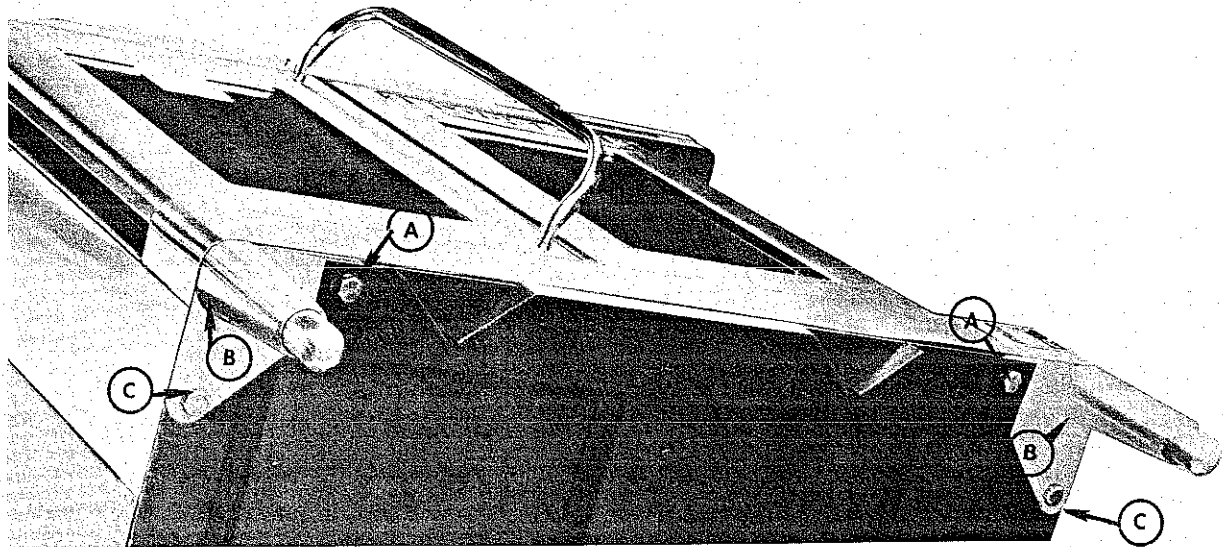
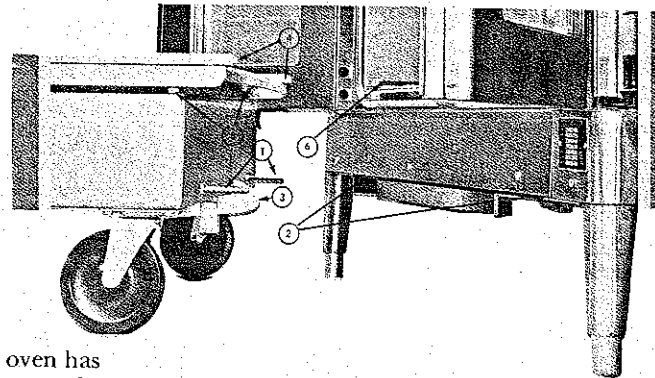
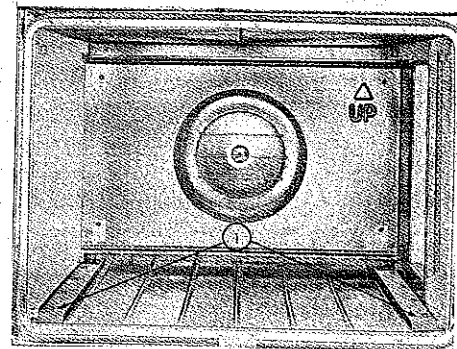

FIG. 11
FIG. 12
FIG. 13
1. The four legs are held in place by three (3) 1/2" bolts in each leg. Two of the 1/2" bolts go through the leg attaching plate and are threaded into the oven frame. The third 1/2" bolt (B) goes through the corner of the oven frame, and is threaded into the leg attaching plate. Lift rear of oven and attach two legs using six (6) 1/2" bolts. Tighten all six (6) bolts.
NOTE: Before installing the two "A" bolts (see FIG. 11 above) the docking assembly must be put in place as shown in FIG. 9. The docking assembly has an offset to allow it to fit over the two front leg attaching plates. There are two (2) offset clips that lock over the bottom frame of oven to keep center portion against frame. The two "A" bolts will be used to secure both the docking assembly and legs. Tighten bolts "B" and "C", DO NOT TIGHTEN "A" BOLTS. (Docking Assembly will require a final adjustment later.)
2. After leveling, note that distance from bottom side of oven to floor underneath should be as close to 7" as possible to facilitate docking alignment of transport cart. (See figure 12.)
2. Move and latch transport cart into place at front of oven. The two alignment pins on front of cart (FIG. 12, NO. 1) should line up with channeled openings in docking assembly (FIG. 12, NO. 2). The locking bar (FIG. 12, NO. 3) will also lock to docking assembly. If there is difficulty with the locking bar engaging the docking assembly, adjust the assembly forward or backwards to allow latching.
3. Align inner vertical edge of tracks on transport cart (FIG. 12, NO. 4) with same vertical edge of tracks located on oven liner bottom. FIG. 12, NO. 6 or FIG. 13, NO. 1). This adjustment can be made by moving the docking assembly either left or right. With the docking assembly adjusted for both latching and alignment tighten the two "A" bolts (FIG. 11).
4. The transport cart has been adjusted for height before being shipped, however, a final adjustment may be required at the installation site. The tracks on the transport cart should be the same height as the tracks on the oven liner bottom. This adjustment is made by raising or lowering the nuts on the four leveling screws located in each corner of the transport cart (FIG. 12, NO. 5).
5. Further alignment may be made by loosening screws which hold tracks in place on oven liner bottom. Move tracks (FIG. 13, NO. 1), which are slotted, to left or right to line up with tracks on either single or double transport cart. Tighten screws.